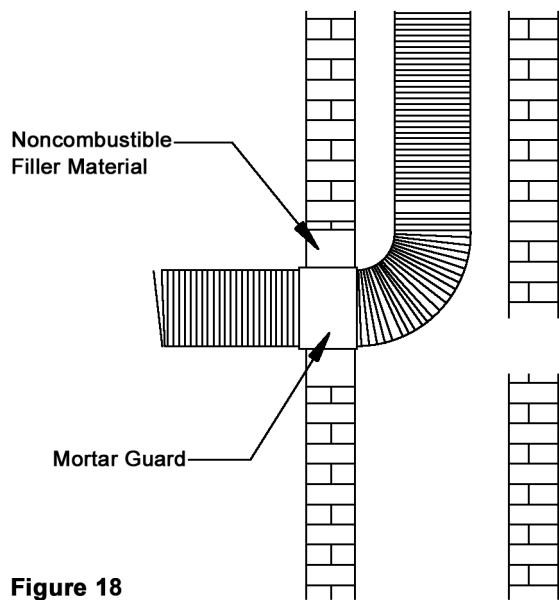

Figure 18
Trim the Flexible Liner flush with the Mortar Guard. Insert the end of a single-wall vent connector pipe (by others) into the Flexible Liner. Secure into place with four (4) evenly spaced screws through the Mortar Guard and into the Flexible Liner and the vent connector (see Figure 18).
When used as a single-wall vent connector, and if it is acceptable, the Flexible Liner system may be extended all the way to the appliances and installed with 1" (25mm) airspace clearance to combustibles. Remember to include a minimum of 1/4" per foot rise in any horizontal sections (from the appliance to the chimney) and keep turns to a minimum (see Figure 18).